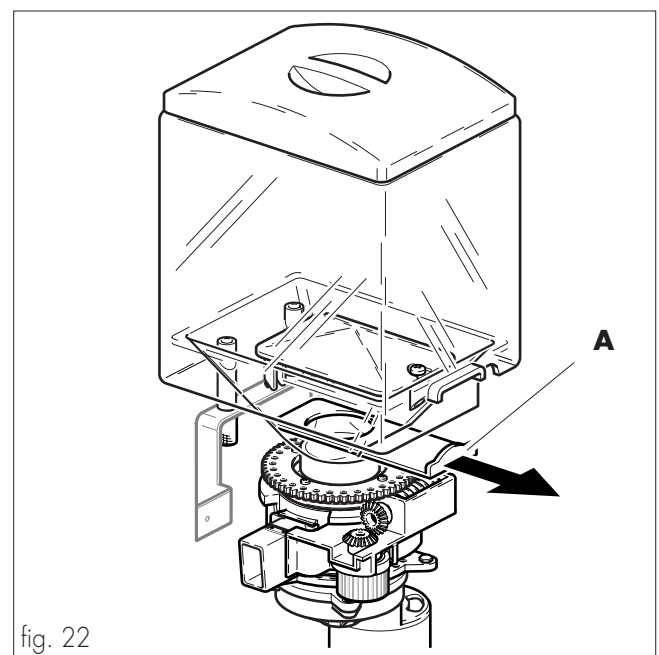

fig. 22
- Open the stop slide (ref. **A**, fig. 22).